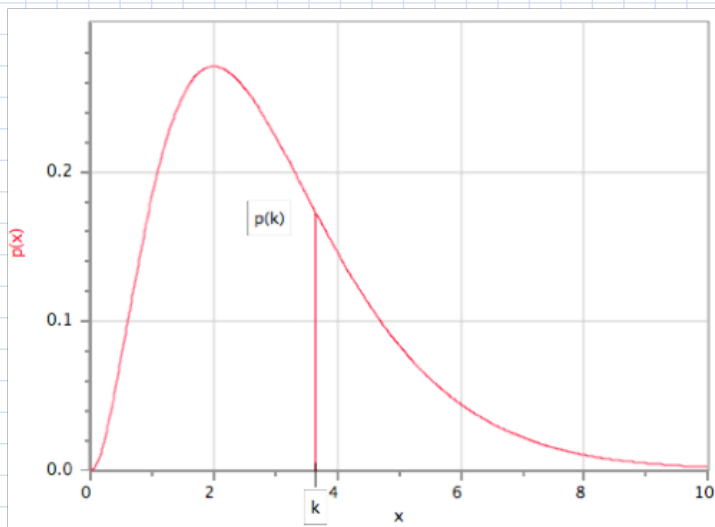
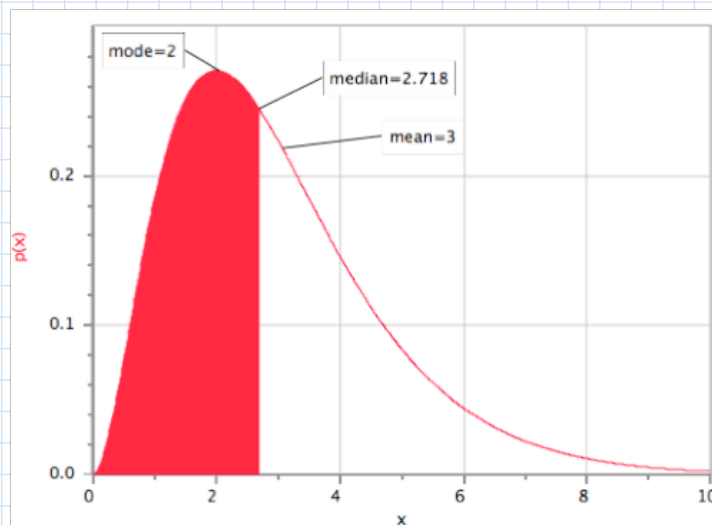

Figure 1: a probability distribution  $p(x)$ , showing  $p(k)$  for a particular value  $k$ .
Figure 5: Mean, median, and mode of the distribution from Figure 1.
More commonly, we can specify the probability distribution for a continuous variable (rather than one that can only take certain discrete values, like heads or tails). In general, to specify a probability distribution we need to specify a value  $p(x)$  for each possible value of  $x$ .  $p(k)$  gives the probability of getting result  $x=k$ . (See Figure 1.)
- **b.** The distribution from Figure 1 has three different values for the mean, median, and mode. The mode is the easiest to find: it's the location of the peak, which is at  $x=2$ . To find the median, we have to find the point which divides the graph into equal areas to the left and right. This is shown in Figure 5 (the area to the left of the median is shaded red; the equal area to the right is unshaded):